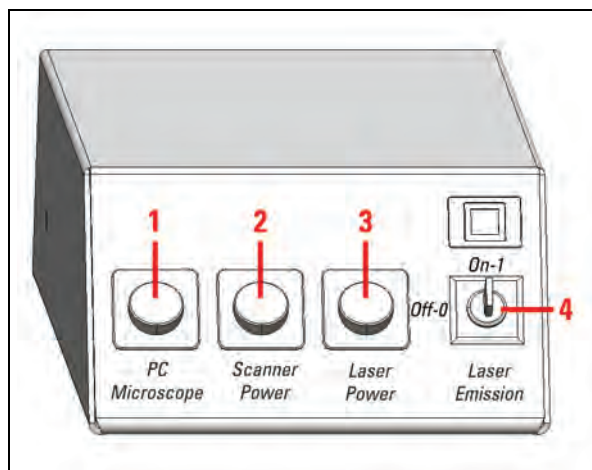

Figure 62: Overview of the main switch board on the flexible supply unit
3. Switch on the workstation and the microscope on the main switch board of the flexible supply unit (see **Figure 62, item 1**). You do not have to start the operating system—it starts automatically when you switch on the workstation. Wait until the startup process has concluded.
7. Switch on the scan head on the flexible supply unit's main switch board (see **Figure 62, item 2**).
8. Switch on the lasers on the main switch board of the flexible supply unit (see **Figure 62, item 3**).
11. To switch on the laser in the supply unit, press the key switch on the main switch board of the flexible supply unit (see **Figure 62, item 4**).